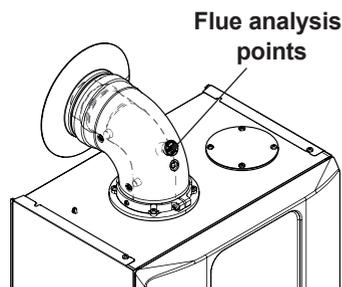

Fig. 10.16
It is recommended that a combustion analysis check is made. Remove the plug as indicated in Fig. 10.16 and carry out combustion analysis check and adjustment if necessary as described in the section "Gas valve - Adjustment - Chimney Sweep Mode" of the Service manual.
- Check the combustion of the boiler using the outlets located on the flue tubes (Fig. 10.16) and compare the data measured with that following.